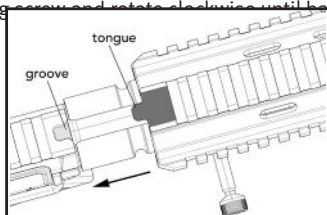

Fig. 54 – Reinstalling the FFRS handguard
- c. Slide the Free Floating Rail System (FFRS-handguard) onto the barrel nut, ensuring that the tongue on the FFRS mounts into the groove on top of the upper receiver. Once the FFRS is flush with the upper receiver, drift in the captive FFRS retaining screw. Insert a 5mm hex wrench into the retaining screw and rotate clockwise until hand tight (Fig. 54).